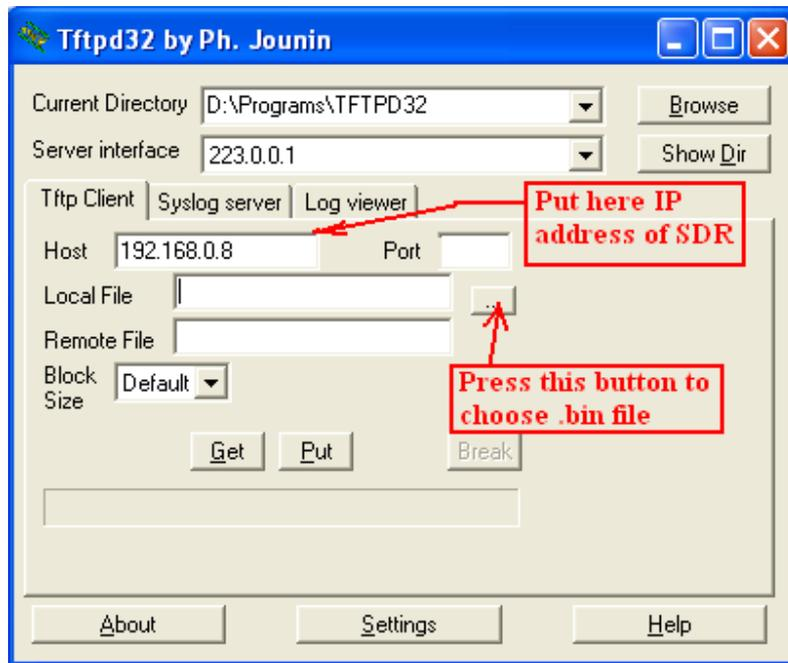

Figure 8 Tftpd32 utility (red color writings shows author's comments)
3.1.5. You need to start tftpd32.exe utility, screen-shot of this utility is shown on **Figure.8**
After first start of this utility you can (but not must) configure it to run only in tftp client mode, to do this you need to press "Settings" button (see **Figure.8**). In "Tftp Client" tab you need to enter IP address of AFEDRI SDR-Net receiver.